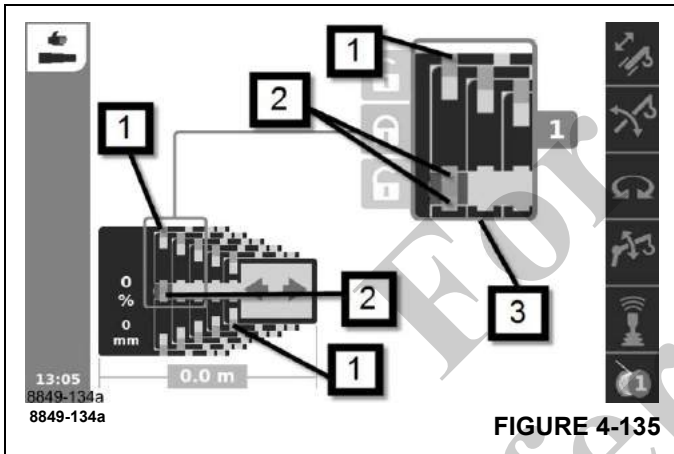

FIGURE 4-135
The current positions of the locking pins are (Figure 4-135):
The area (3), (Figure 4-135) shows an enlarged cut-out.